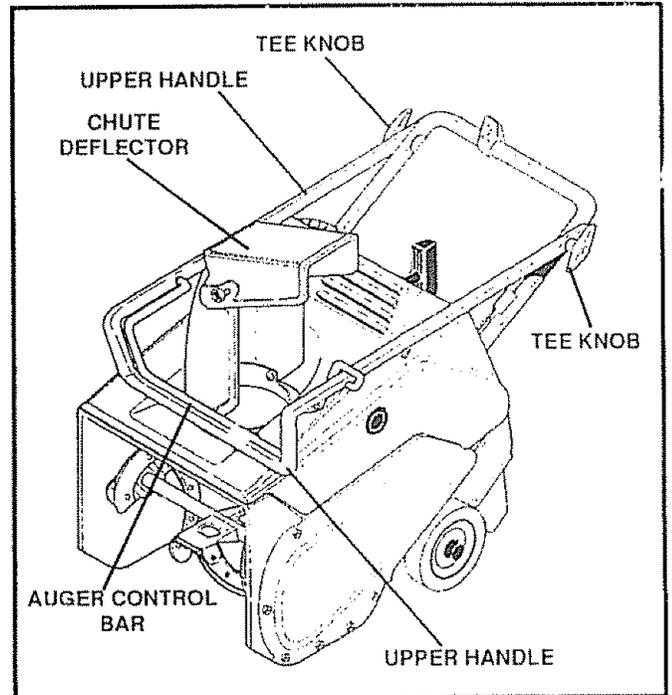

FIG. 2
- Loosen the tee knob on each side of the upper handle (Fig 2)